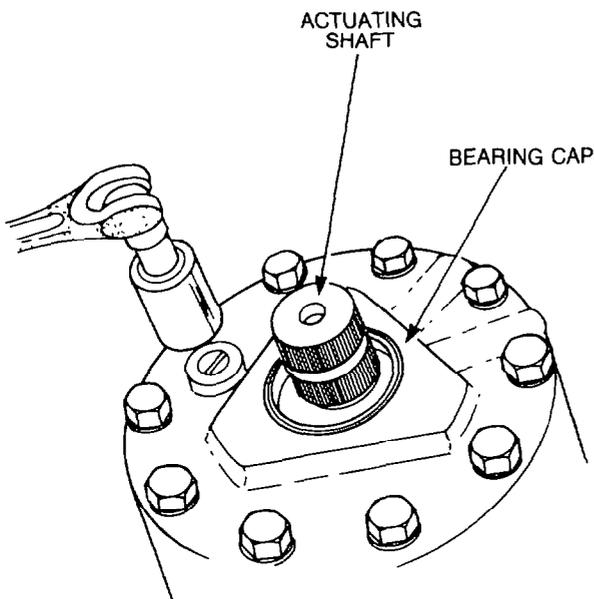

Figure 266 — Bearing Cap Retaining Bolts — Removal
- g. Remove the ten bolts securing the bearing cap to the housing (see Fig. 266), then turn the actuating shaft clockwise to free the bearing cap from the piston and housing.